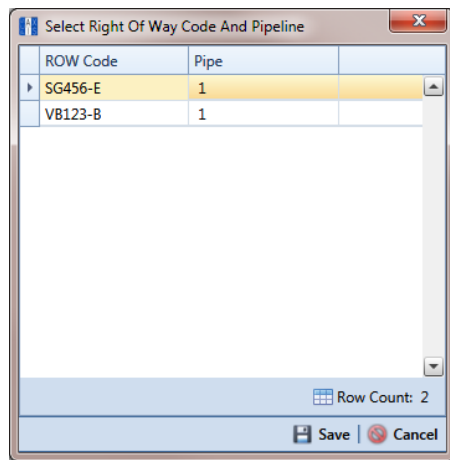
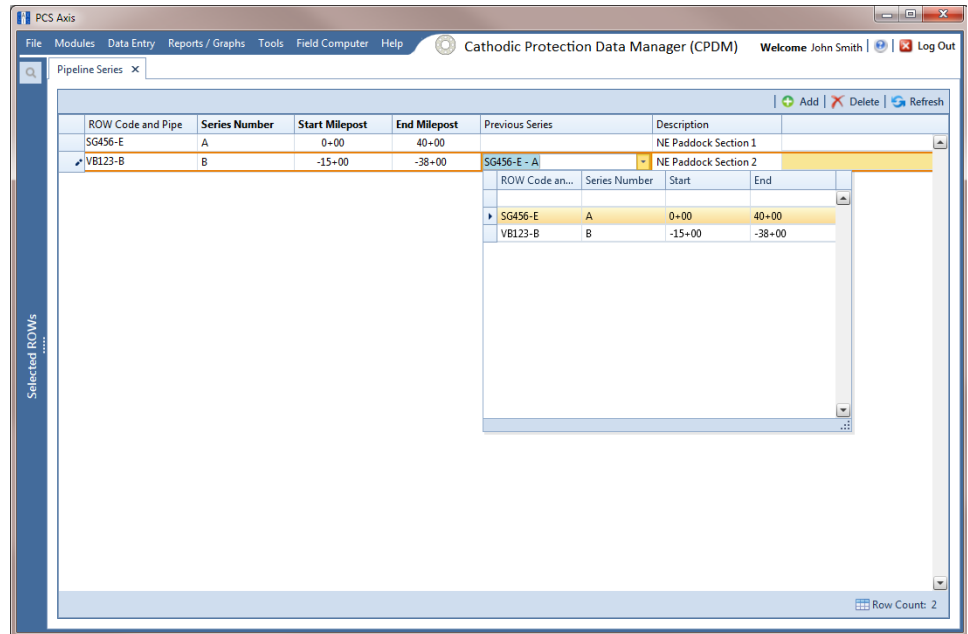

Figure 3-67. Select Right Of Way Code And Pipeline
Figure 3-69. Pipeline Series
- 4 Click **+** **Add** and then select the *ROW Code* and *Pipe* you want to work with in the dialog box that opens (Figure 3-67).
- 10 If you want to add another *Series*, complete the following steps to create a pipeline *Series* chain (Figure 3-69):
NOTE: PCS Axis uses the preceding *Series* of each *Series* in a chain to calculate the *Relative Milepost*. All *Series* in a chain except the first *Series* require that you identify the *Previous Series* (Figure 3-69).
The following example illustrates a pipeline *Series* chain with two *Series* in the chain (Figure 3-69). *Series A* was added for the original pipeline segment with a start and end milepost of 0+00 and 40+00 respectively. *Series B* was added for a pipeline extension. Because the mileposts are in reverse order in *Series B*, the *Pipeline Series* is set up with a start and end milepost of -38+00 and 0+00 respectively. Also see Figure 3-67 (page 116) for an illustration of a pipeline *Series* chain with calculated *Relative Mileposts*.